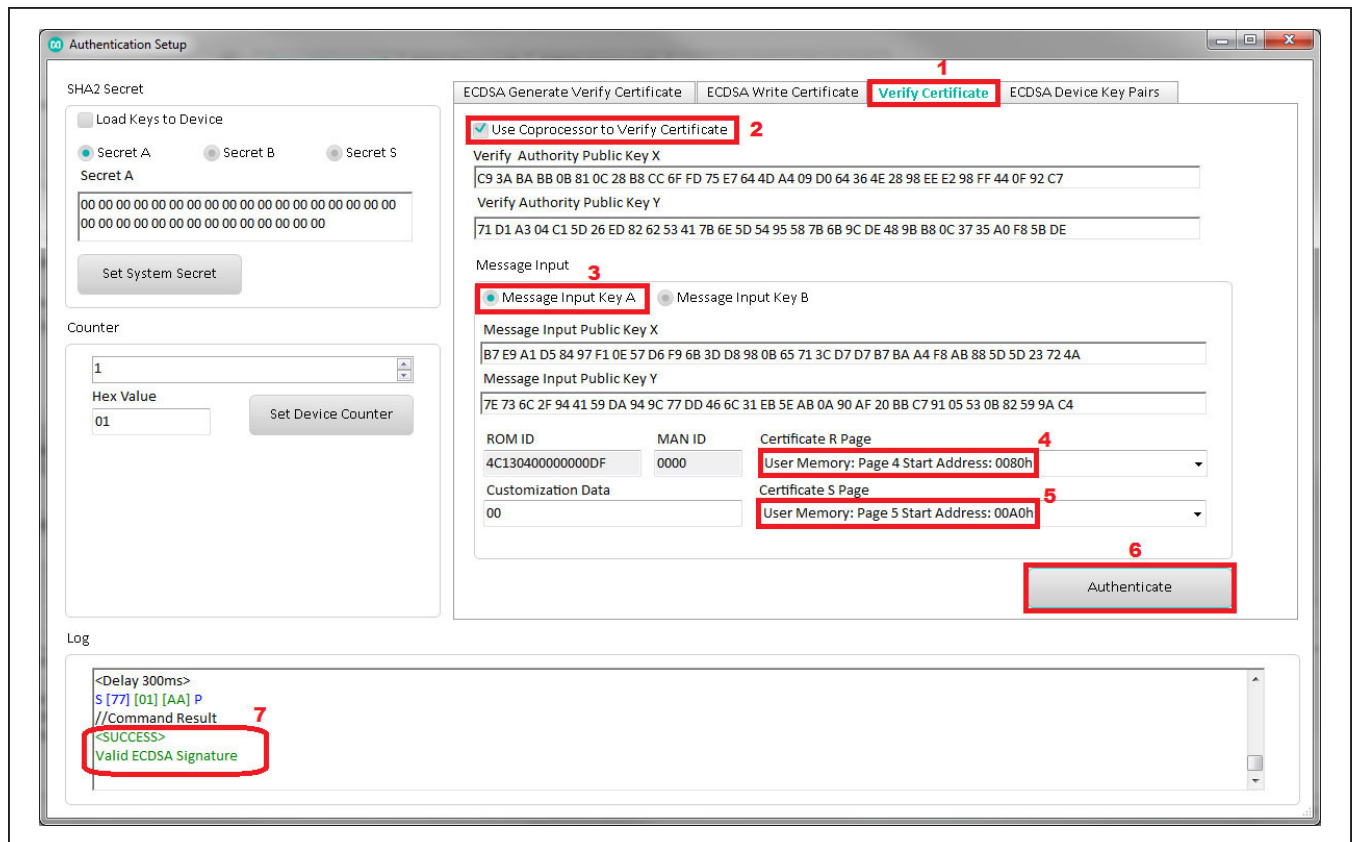

Figure 24. Verify the Certificate using the Coprocessor
- 4) Perform master verifies certificate for device public key AX/ay, ROM ID, and MANID (Figure 24). Select the **Verify Certificate** tab and check the **Use Coprocessor to Validate Certificate** in the **Message Input**. Choose the **Message Input Key A** radio button, and from the **Certificate R Page** drop-down list, choose **User Memory: Page 4 Start Address: 0080h**. In the **Certificate S Page** drop-down list, choose **User Memory: Page 5 Start Address: 00A0h** for the ingredients. Then click the **Authenticate** button to verify the certificate, confirming that the **Log** displays **Valid ECDSA Signature**. This means the DS28C36 is part of the system, but not yet authentic until it can create a valid digital signature.
- 4) Perform **Read Memory** on user pages 4/5 with device certificate. The Master verifies the certificate for device public key AX/AY (Figure 24). Select the **Verify Certificate** tab, and uncheck the **Use Coprocessor to Validate Certificate**. In the **Message Input** section, click on the **Message Input Key A** radio button, from the **Certificate R Page** drop-down list and choose **User Memory: Page 4 Start Address: 0080h**. In the **Certificate S Page** drop-down list, choose **User Memory: Page 5 Start Address: 00A0h** for the ingredients. Then click the **Authenticate** button to verify the certificate, confirming in the **Log** the text *Valid ECDSA Signature*. This means the DS28C36 is part of the system, but not yet authentic until it can create a valid digital signature. Take note from the output **Log** that the *Verify Authority Public Key* was temporarily written to the Public Key S and the device certificate verified by the coprocessor.